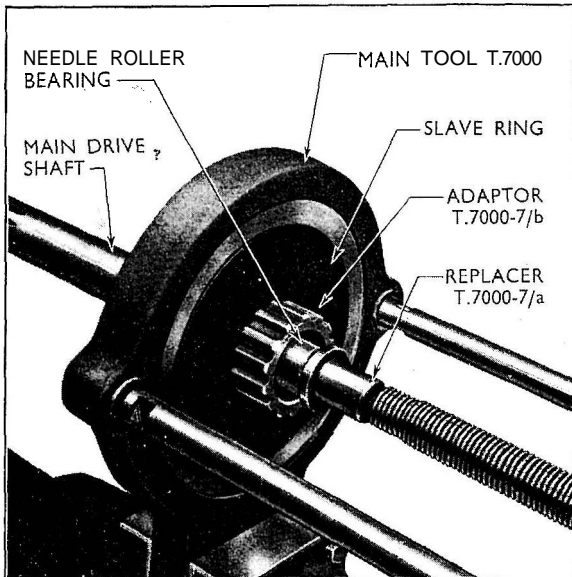

Fig. 42
22. When fitting a new needle roller spigot bearing to the main drive shaft, pass the shaft through the ring adaptor T.7000-7/b until the face of the large spline abuts the adaptor. Install the slave ring in Main Tool T.7000 and place the shaft and adaptors within the slave ring. Locate the bearing on the replacer T.7000-7/a with the end of the bearing having the stamped identification marking against the shoulder of the replacer, and position in the tool so that the bearing is adjacent to the main drive shaft bearing bore (see Fig. 42). Press the bearing into the bore until the flange face of the replacer abuts the counterbore face in the shaft.